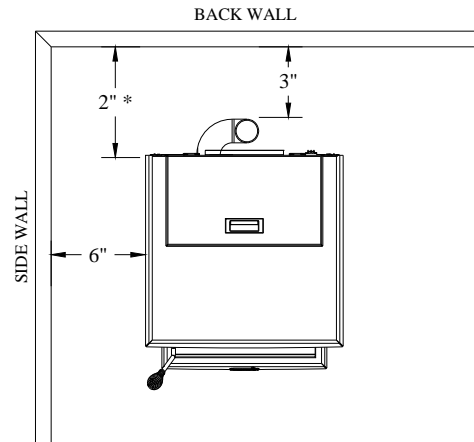

Figure 1
The FP-35 has been tested and listed for installation in regular and mobile homes.(refer figure 1 & 2)
1. Position stove, adhering to clearances shown in Figures 1 & 2.
5. Position the stove, adhering to the clearances in Figures 1 & 2.